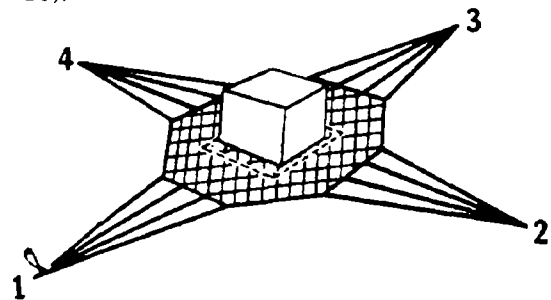

Figure 1-8. Aligned Load
Step 3 - Align the load on the net so that the sides of the load are parallel with the yellow cord (Figure 1-8). The load may overlap the yellow cord. The load's center of gravity will be near the center of the net. The lifting legs will be on the side of the load, not on the corners. If the load is loose cargo, place the cargo on the net with the heaviest items in the center and the lighter items toward the sides or on top of heavier items.